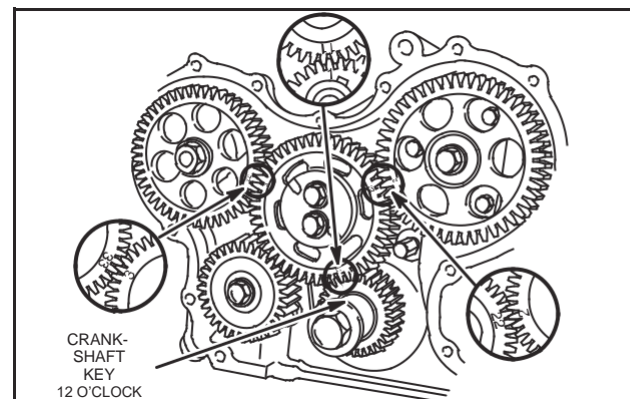

Fig. 18 – Aligning Timing Marks
5. With crankshaft key at 12 o'clock position, assemble idler gear so that timing mark 11 (AA) is aligned with timing mark 1 (A) on crankshaft gear, timing mark 22 (BB) is aligned with timing mark 2 (B) on camshaft gear, and timing mark 33 (CC) is aligned with timing mark 3 (C) on injector pump gear, as shown in Fig. 18.